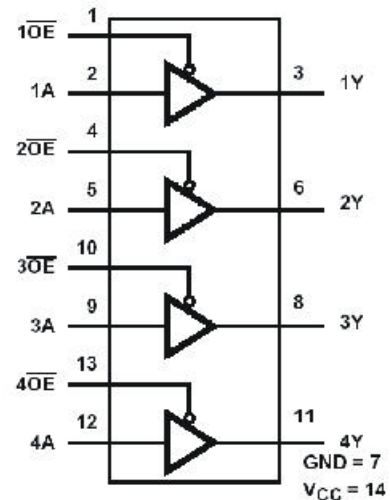

Figure 3.5.6.1 Truth value table and 74HCT125 function module structure
1. 74HCT125 (N3, N4) is a 4-channel gating switch, and each channel has its own gating signal, in which pin 1, 4, 10 and 13 are gating control pins, gating when in low level and off when in high level. 74HCT125 truth value table and function module structure is shown as the figure 3.5.6.1: